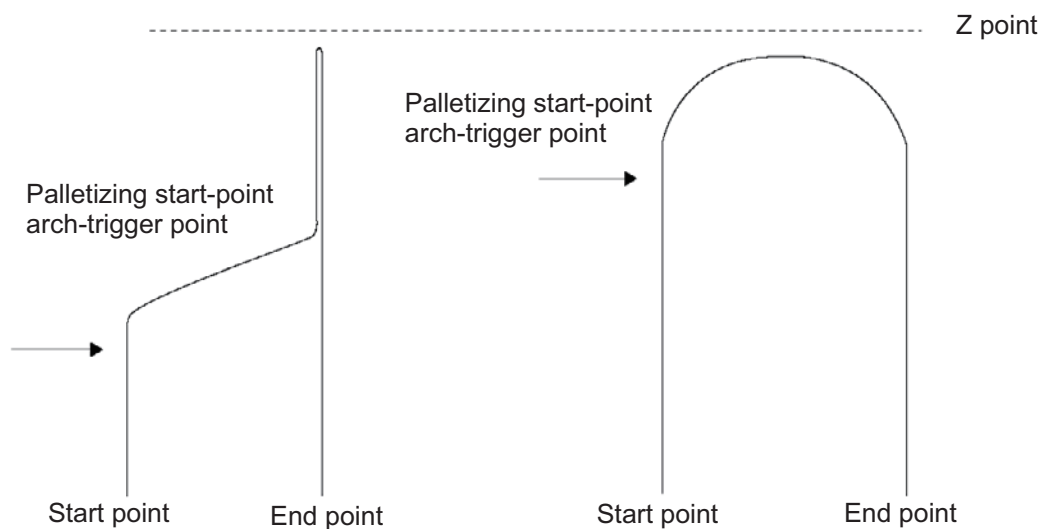

Fig. 5
- The arch-motion Z-axis will come down after a rise-process command value is output. Therefore, the operation may follow the locus in Fig. 5 given in the aforementioned explanation of PACH command, depending on the settings of arch-trigger points and Z point. In this case, change the arch triggers and Z point to increase the operation efficiency.